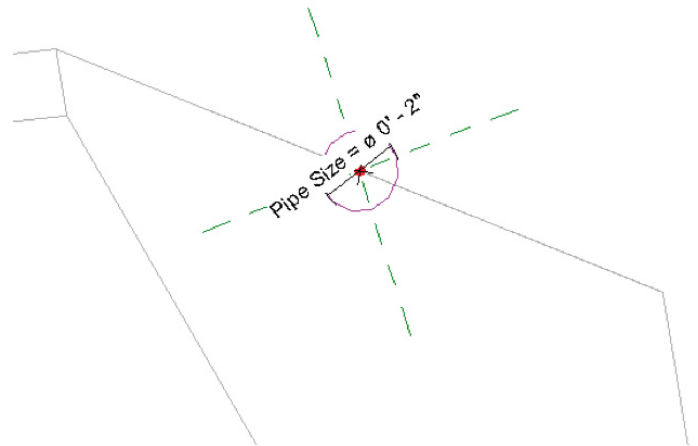

Figure 5.
14. Add a Diameter dimension and label it Pipe Size as shown in Figure 5.